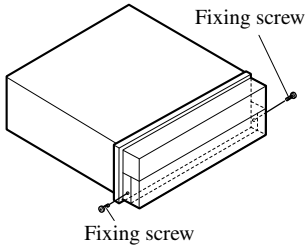

Fig. 18
- **Fix the front panel to the unit using fixing screws after removing the front panel. (Fig. 18)**